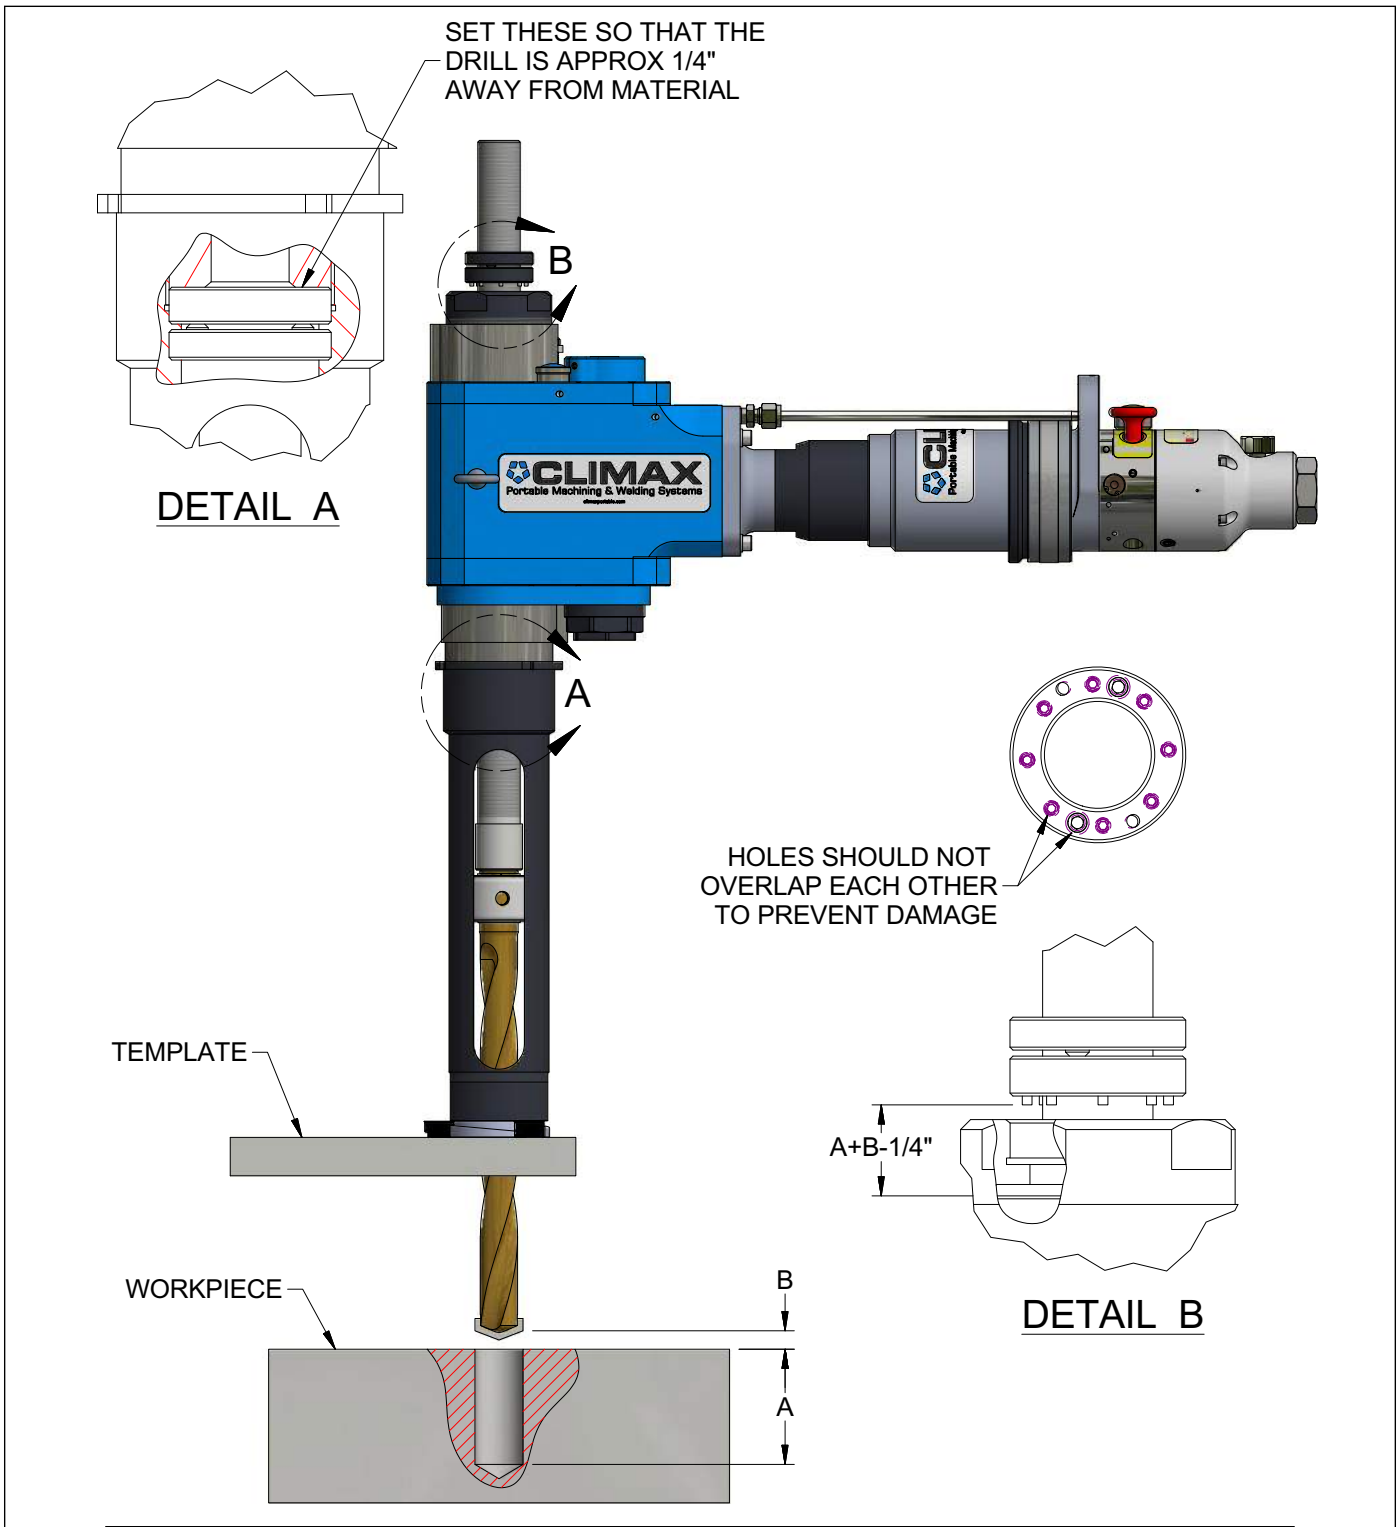

FIGURE 3-3. DRILL SETUP
2. Adjust the depth and retract collars by hand until the desired cutting depth/shutoff depth is achieved. Refer to Figure 3-3.
Refer to Figure 3-3 while doing the following: